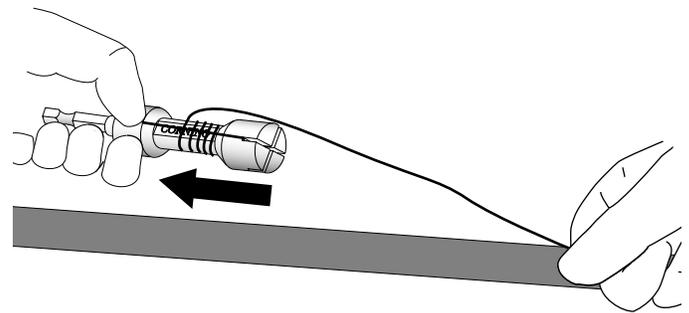

Figure 10
4.9 To unwind the rip cord, point the front of the tool along the axis of the slit in the cable sheath and gently pull back on the tool (Figure 10).